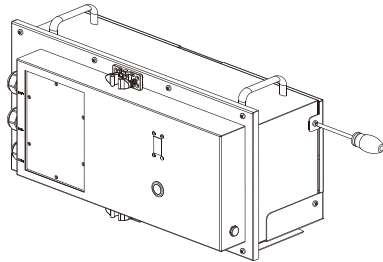

Figure 2.20 Remove the Wall Bracket of M4856-P
Step 3 Use T20 screwdriver to remove the 4 screws fixing the box and the wall bracket, as shown in Figure 2.20